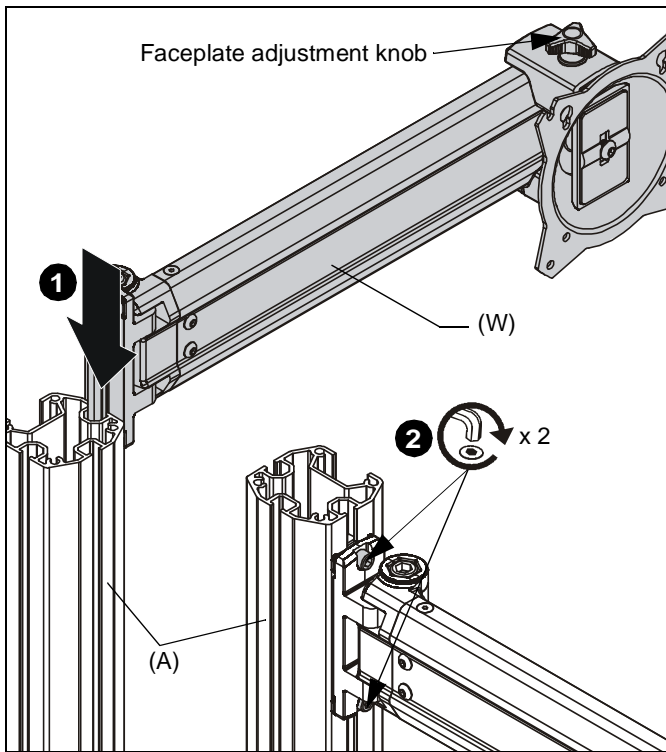

Figure 1
**NOTE:** Be sure the faceplate adjustment knob is on top when installing the arms. (See Figure 1)
1. Slide array arm-right (W) into top of column assembly. (See Figure 1)
2. Tighten two fasteners to secure array arm into place. (See Figure 1)